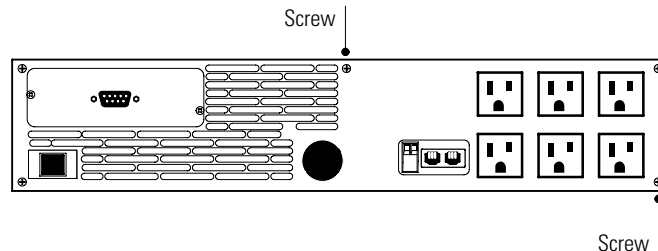

Figure 1. Removing the UPS Screws
8. Remove the two screws from the UPS rear panel as shown in Figure 1. Discard the screws.